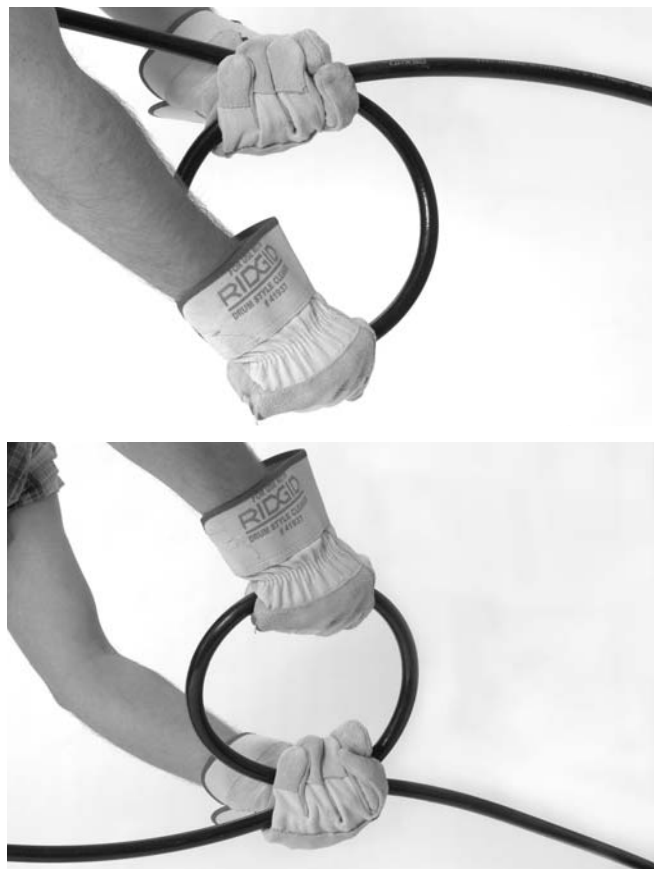

Figure 15 – Rotating the Hose.
- Rotate the hose a quarter to half turn to orient the set of the hose to the direction change (If the hose is rotated, once through the obstruction, turn the hose back to help prevent kinks) See Figure 15.